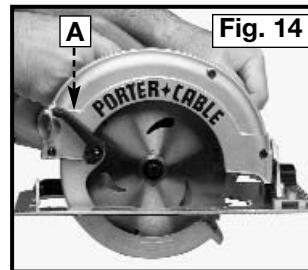
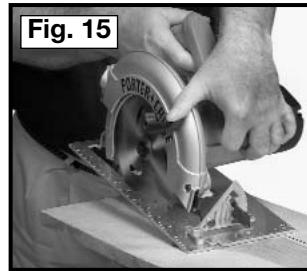

Fig. 14
Fig. 15
WARNING Use the lever (A) Fig. 14 provided on the telescoping guard when you have to retract the telescoping guard manually. (See Fig. 15.)
A pocket cut is one which must be made inside the area of the workpiece and not starting from the edge. Mark the area clearly with lines on all sides. Start near the corner of one side and place the front edge of the saw base firmly on the workpiece. Hold the saw up so that the blade clears the material. Confirm that you have adjusted the blade properly for the depth of cut. Push the telescoping guard lever all the way back so the blade is exposed (Fig. 15).